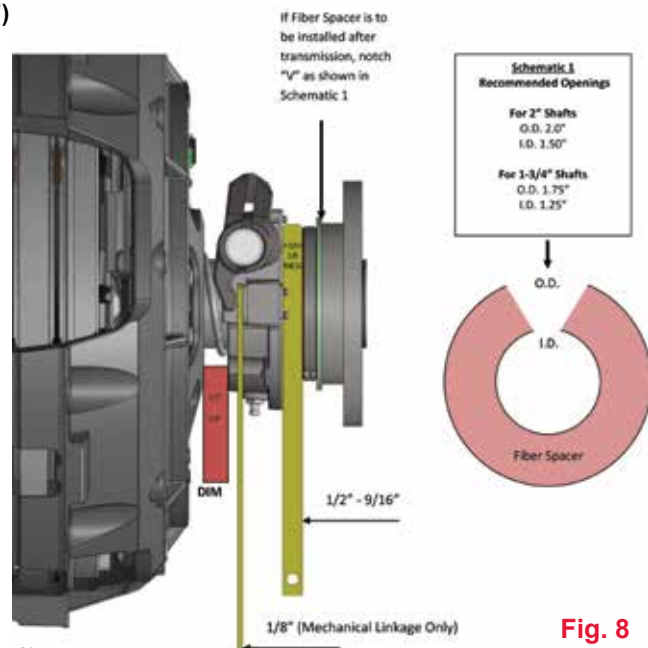

Fig. 8
After transmission installation, check the clearance between the yoke tips and wear pads on bearing housing for 1/8" clearance. This determines pedal free play (Mechanical Linkage Only). (See Fig. 8)
Check for proper clutch brake and bearing gap of 1/2" to 9/16". If the gap is too small verify DIM B (Fig. 6 or Fig. 8). If DIM B is correct and a fiber spacer or oversized clutch brake was installed, remove the fiber spacer and/or replace over-sized clutch brake with standard thickness clutch brake. **NOTE: If the gap is larger than 9/16" and DIM B is correct then one of the following conditions exists. Fiber spacer/over-sized clutch brake was not installed or you need to re-measure input shaft length as seen in Fig. 7. DO NOT ADJUST THE CLUTCH**
- Verify bearing position is in spec between 1/2" - 5/8" (Fig. 8)
- Verify Bearing Position is in spec between 1/2" - 5/8" (Fig. 8)
- Verify Bearing to Brake Gap is in spec between 1/2" - 9/16" (Fig. 8)
- Release system linkage components are worn; need to be adjusted or replaced (Fig. 8)
1. Remove self-adjusting mechanism (Fig. 8)
3. Install manual adjust mechanism (Fig. 8)